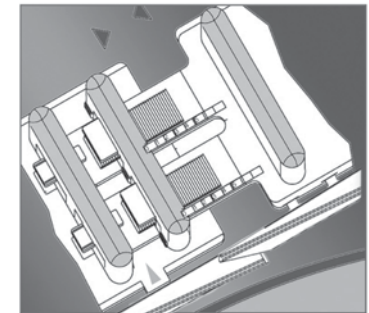

Fig. 5
5. Registrare i moduli manualmente, in modo omogeneo, fino a farli aderire al tubo (**vedi Fig. 5**).
Close the modules by hand till reaching a good adhesion of the complete ring onto the pipe (see Fig. 5)